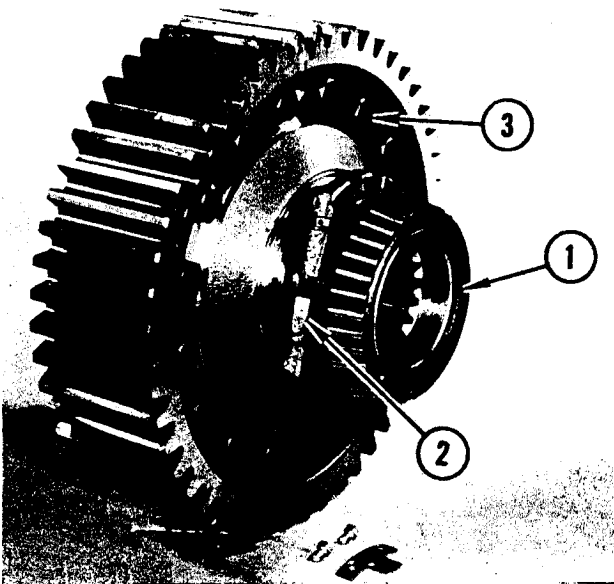

FIGURE 97. BULL GEAR DISASSEMBLY
Refer to Figure 97. Remove bearing (1) from R.H. bull gear hub. Repeat for bearing on L.H. hub. Remove adjusting nut (2) from R.H. hub. Inspect bull gear teeth. If any are broken, cracked or show signs of excessive